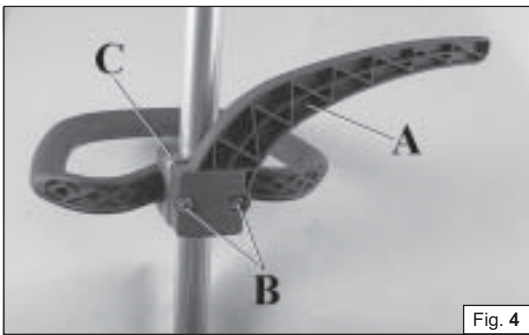

Fig. 4
**MONTAGGIO BARRIERA DI SICUREZZA (Fig. 4)**
**MONTAGE DE LA BARRIÈRE DE SÉCURITÉ (Fig. 4)**
**ASSEMBLING THE SAFETY BOOM (Fig. 4)**
**MONTAGE SCHUTZSTANGE (Abb. 4)**